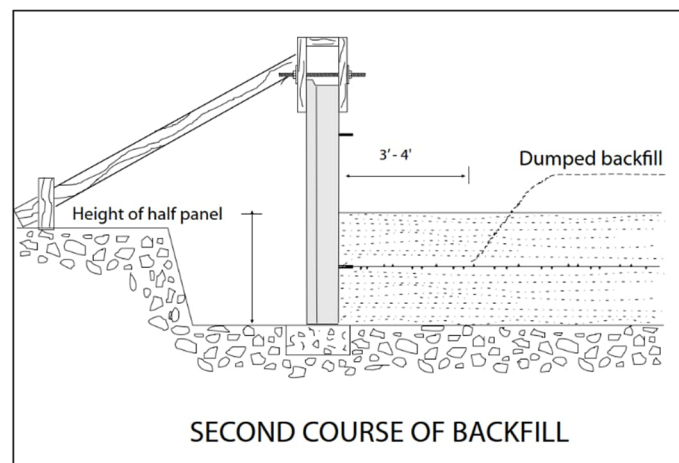

Figure 27: Second course of backfill.
Only after the first layer of reinforcing strips has been connected to the panel tie strips as detailed in Section E, and a lift of backfill placed and compacted over the strips can backfill then be placed and compacted against the back of the panels illustrated in Figure 27.
**STEP E-2:** Dump backfill onto the reinforcing strips so that the toe of the backfill pile is 3-4 ft. from the panels. Spread the backfill by pushing the pile parallel to the panels and wind rowing it toward the panels and toward the free end strips. If strips are long, a second load may be required to backfill to the ends of the strips. If so, dump and spread this load only after spreading the first. Continue to backfill to the full height of the half panels (Figure 27).